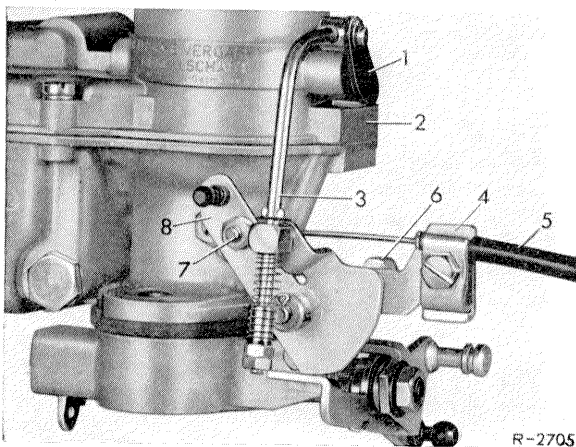

Fig. 12 Starting device
Fasten Bowden spiral of starter pull in a manner ensuring that it is flush with the sloping edge of Bowden cable holder (4). Next, push starter pull down, whereby a clearance of 1 mm between starter pull button and dashboard should be observed. Advance starter lever (8) as far as stop (6) on Bowden cable holder (4). In this position, fasten starter pull with setscrew (7) to the starter lever (see fig. 12).